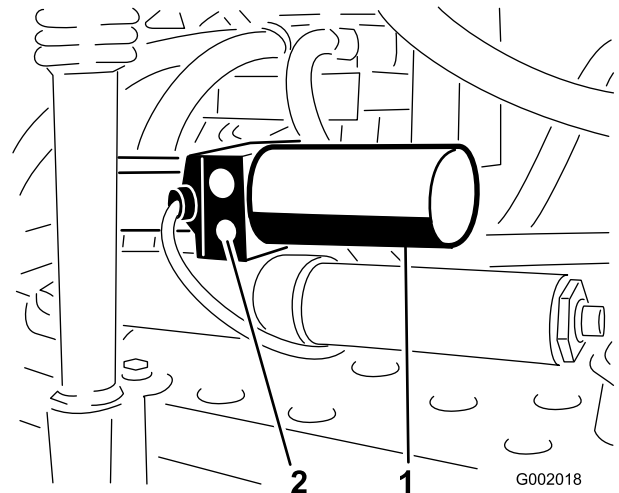

Figure 69
1. Locate the manual relief valve on the actuator for each boom. The manual relief valve is the smaller valve and is only on one side of the actuator body (Figure 69).